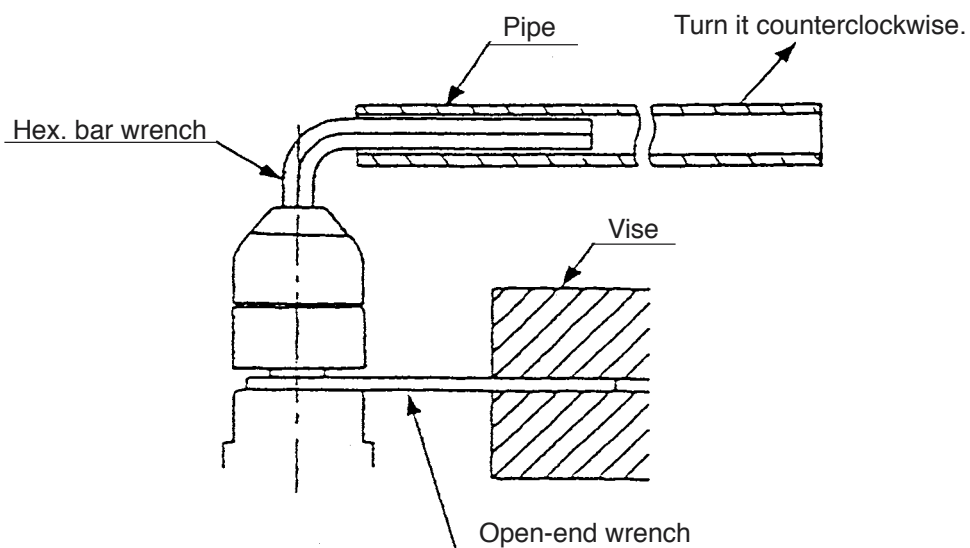

Fig. 5
- b. Hold the Spindle [4] <4> with the open-end wrench secured to the vise as shown in Fig. 5. Mount the pipe to the hex. bar wrench. Turn the hex. bar wrench counterclockwise to loosen the drill chuck. (Fig. 5)